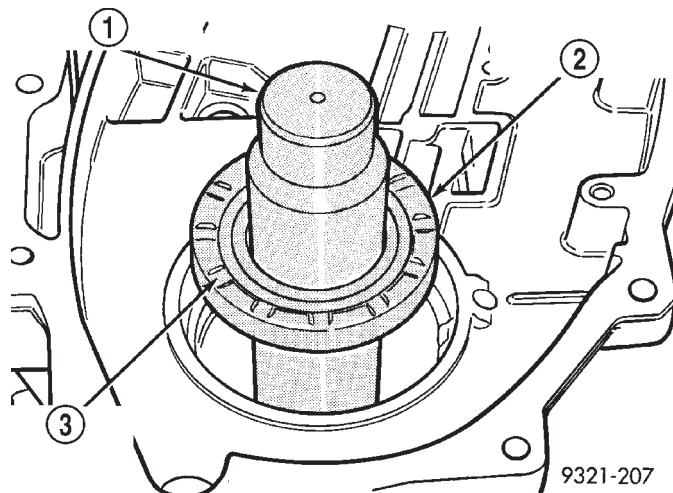

Fig. 414 Correct Seal Orientation
(36) Apply a small amount of lube to seal lips and install front transfer shaft seal. The serrated edges must face toward the rear of the transaxle (Fig. 414).